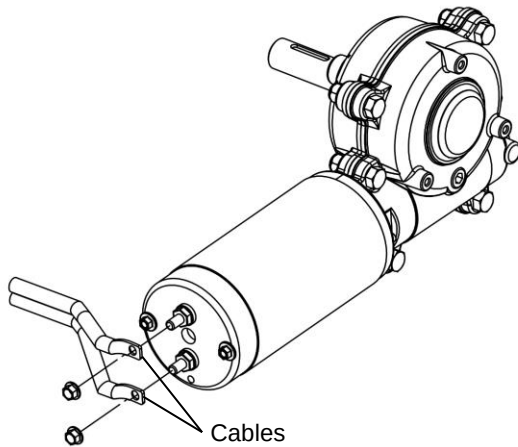

Figure 2
3. **Figure 2.** Disconnect the two cables from the motor terminal.